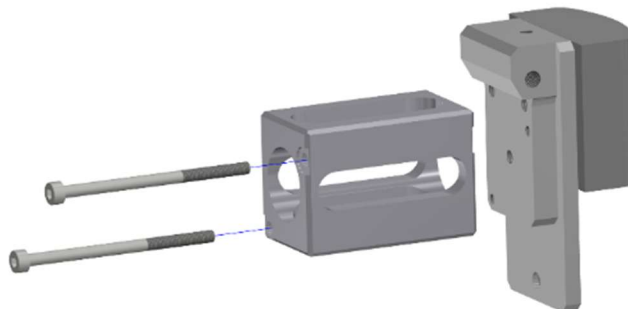

Figure 8-19. Remove the On Board DAS Structural Replacement (474-8206)
- 8.2.15 Remove the On Board DAS Structural Replacement (474-8206) by removing two M3 X 0.5 X 50 LG. SHCS (Figure 8-19).